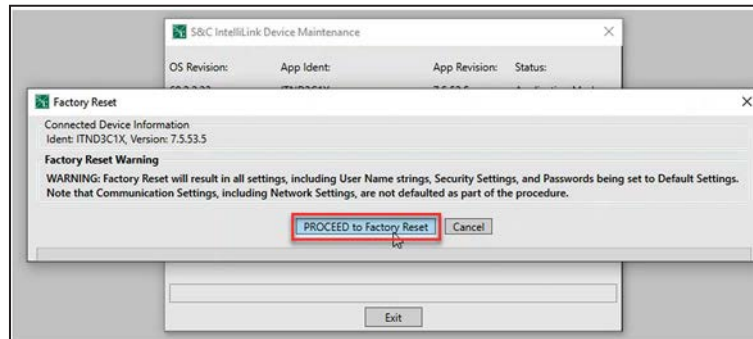

Figure 127. The Proceed to Factory Reset button.
STEP 5. Click on the **Proceed to Factory Reset** button when prompted. See Figure 127.